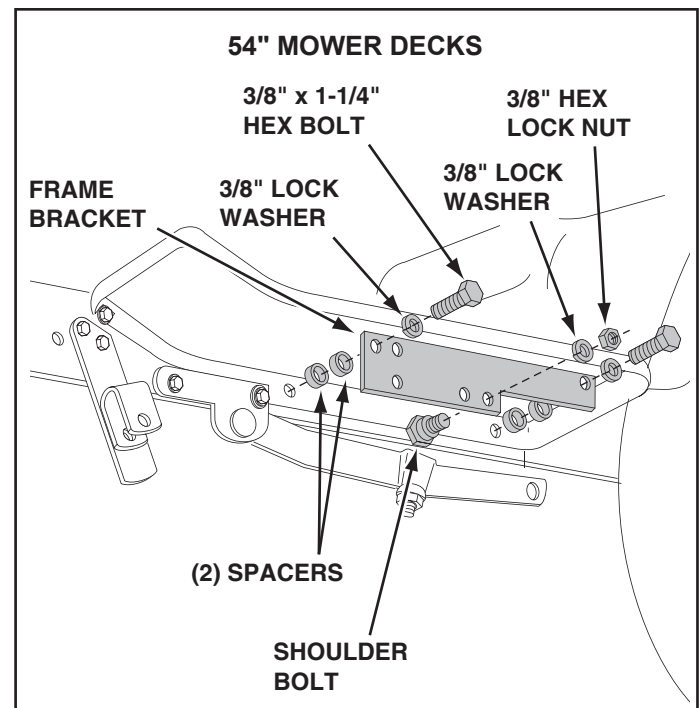

FIGURE 10 **LEFT SIDE VIEW**
- Assemble a frame bracket to the L.H. foot rest as shown in figure 10. Use two 3/8" x 1-1/4" hex bolts, four spacers (2 per bolt) and two 3/8" lock washers.
- Assemble a shoulder bolt to the inside of the frame bracket, securing it with a 3/8" lock washer and a 3/8" hex lock nut. See figure 10.